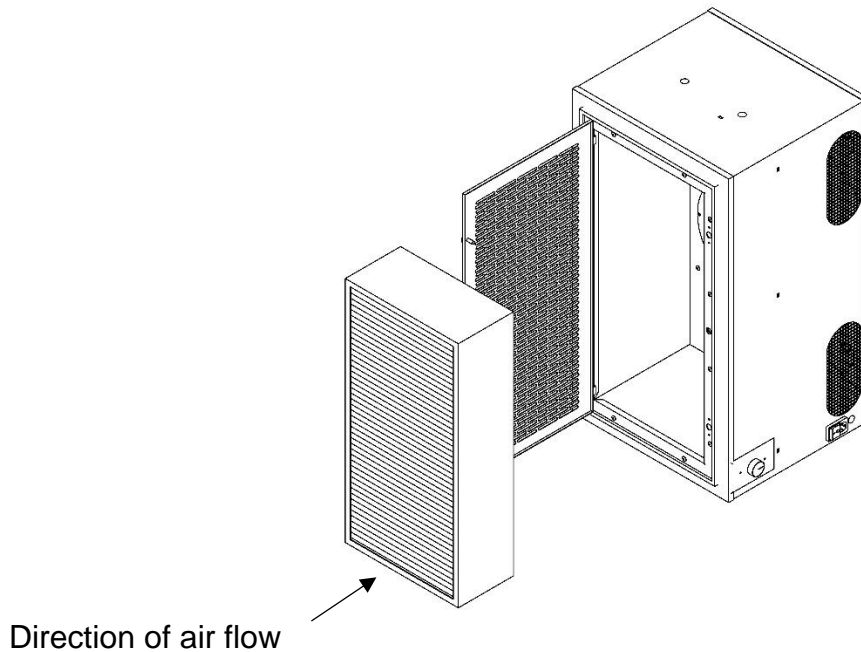

Figure 6
4.) Remove old HEPA filter. See Figure 6.